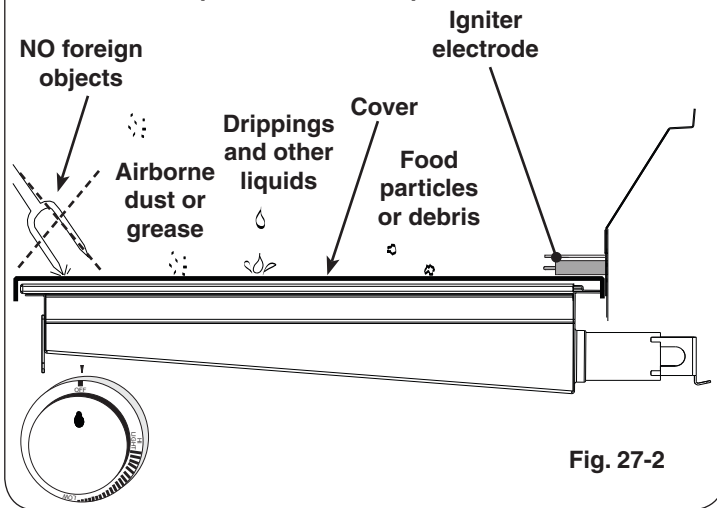

Fig. 27-2
- When not in use, **always** cover the infrared burner with the stainless-steel cover. This protects the burner from drippings (from other cooking), water, airborne particles, and foreign objects (Fig. 27-2).
- Do not strike or scrape the ceramic portion of the burner as it may chip, crack, or break (Fig. 27-2).